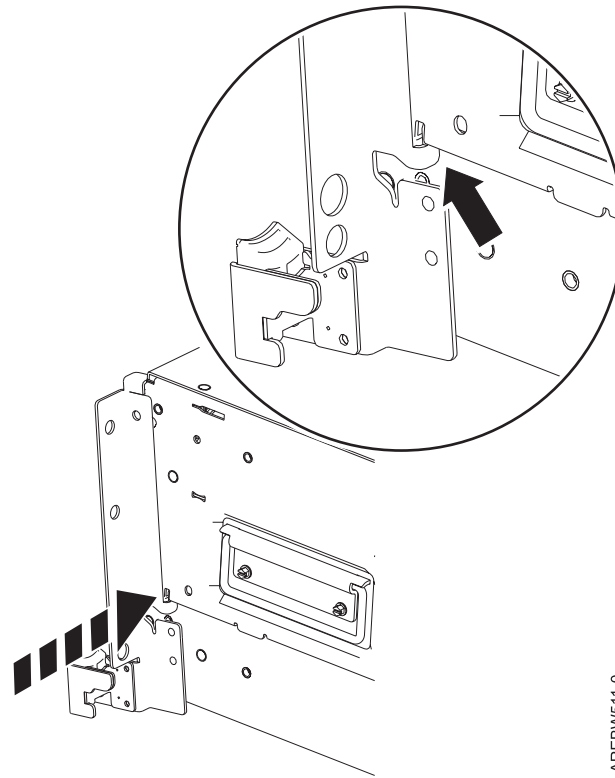

Figure 53. Align the bracket with the slot on the side of the system
- b. Align the bracket with the slot on the side of the system as shown in Figure 53 on page 51.